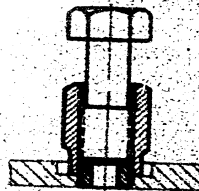

Fig. 21
b) screwing out the 3rd and 4th stage valve seats and the scavenging pump (on 1st stage bush) from their recesses by means of a special tool (Fig. 21);